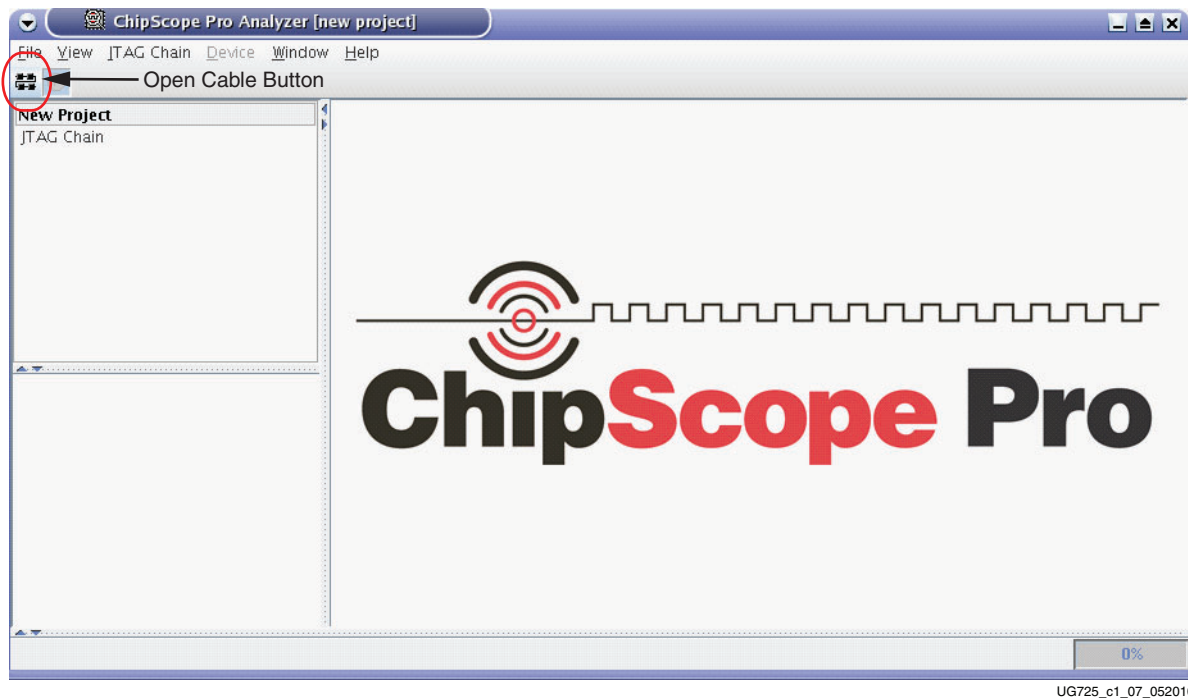

Figure 1-7: Open Cable Button
- When the new project window opens, click the **Open Cable** button (Figure 1-7).